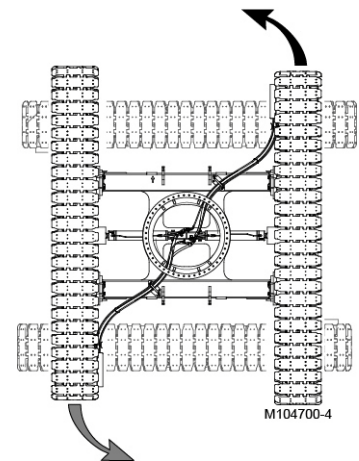

Figure 3-18. Counter-rotate Left
- To COUNTER-ROTATE LEFT (Figure 3-18), move the right crawler control handle forward from the neutral position and move left crawler control handle back from the neutral position.